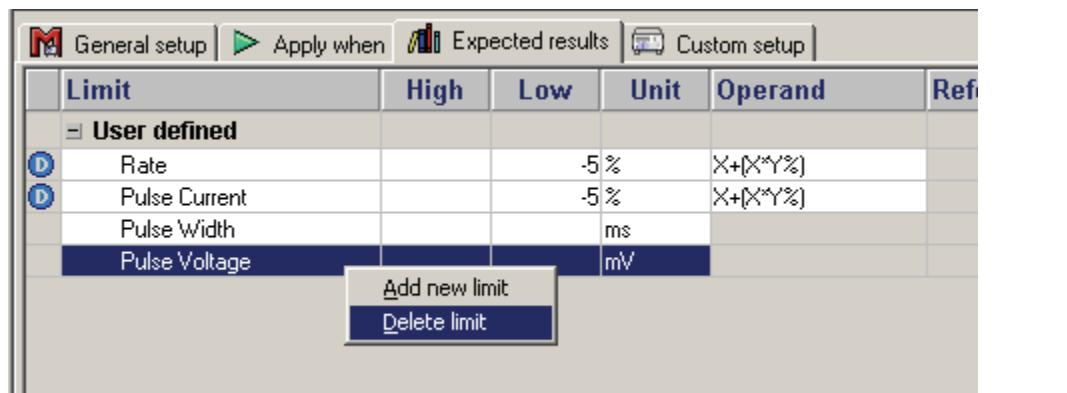

Figure 4-5. Add or Delete Limits Pop-up Menu
- To add or delete limits, right click one of the rows of the **Expected results** page and select from the pop-up menu, as shown in Figure 4-5.